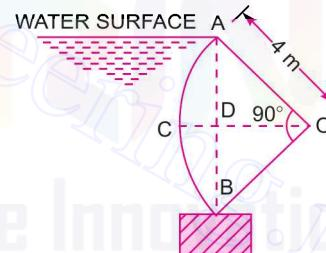

Fig. 3.32
**Problem 3.25** Find the horizontal and vertical component of water pressure acting on the face of aainter gate of  $90^\circ$  sector of radius 4 m as shown in Fig. 3.32. Take width of gate unity.